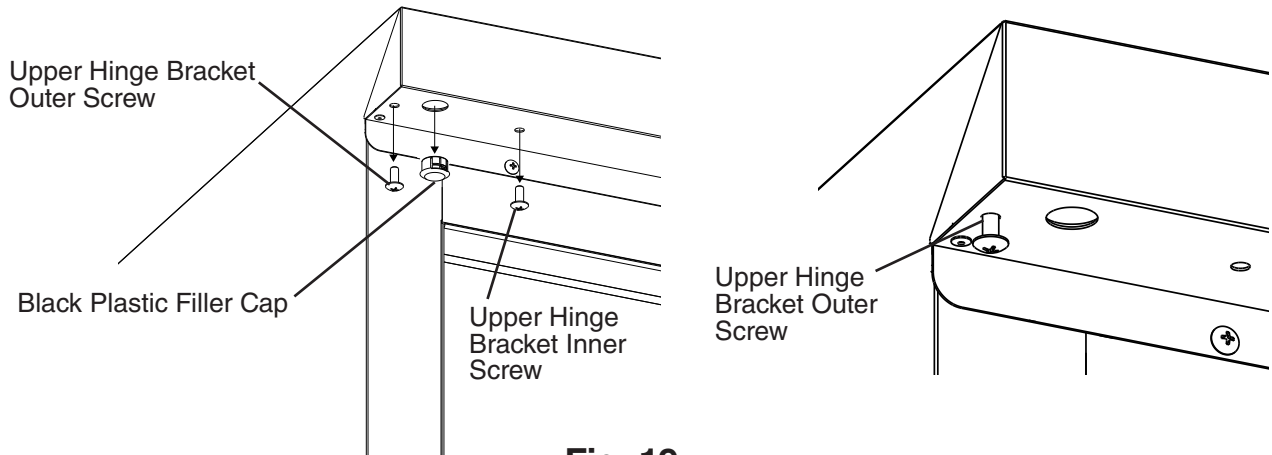

**Fig. 19**
- 13) Remove the upper hinge bracket screws from the new location and apply Loctite Threadlocker Blue 242 or 243 to the threads. Next, start the upper hinge bracket outer screw into the appliance. Rotate a few threads into the appliance; do not tighten the screw. See Fig. 19.